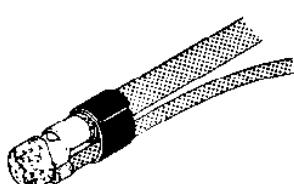

Figure 3
- 4.** Make one complete wrap of mastic around both cables (Figure 3). Remove excess mastic.